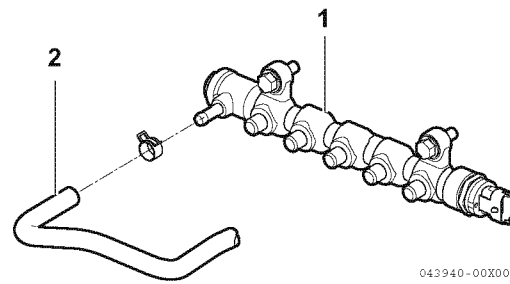

Figure 7-7
3. Remove the leak piping (Figure 7-7, (2)) from the pressure limiter (Figure 7-7, (1)).